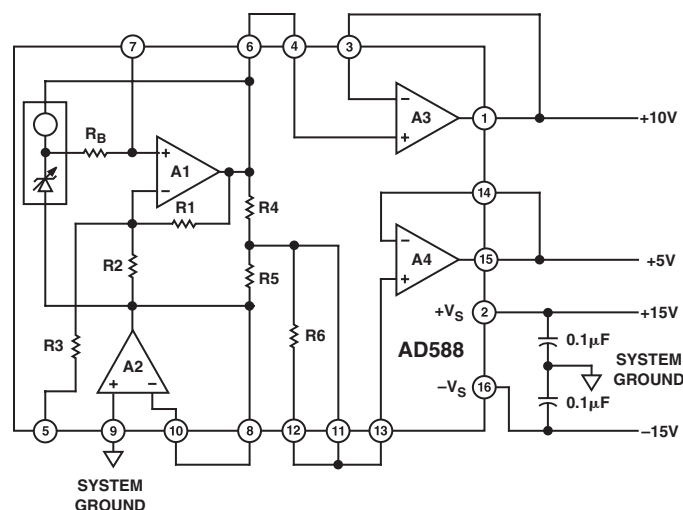
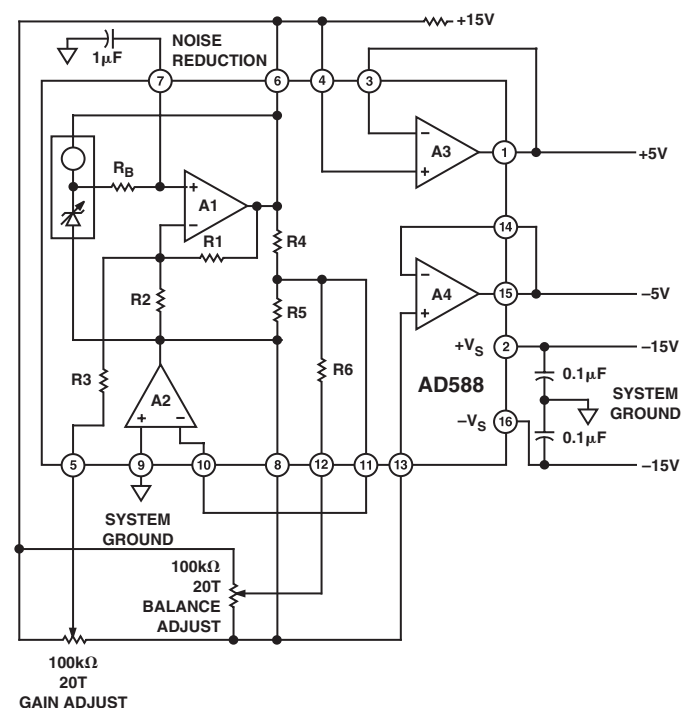
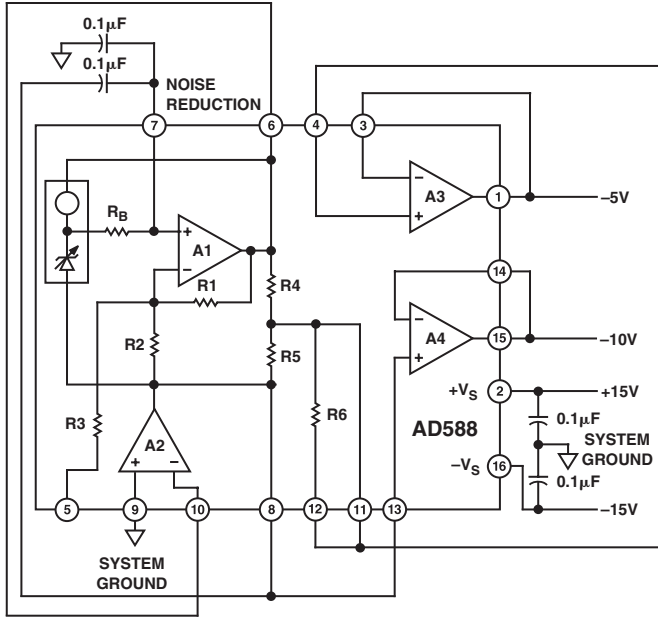
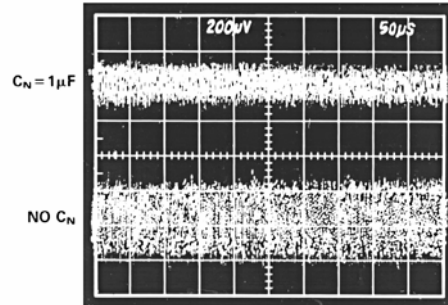

Figure 2a. +10 V Output
Figure 2b. +5 V and -5 V Outputs
Figure 2c. -10 V Output
Figure 4. Effect of 1 μF Noise Reduction Capacitor on Broadband Noise
+10 V	Figure 2a
-10 V	Figure 2c
+5 V, -5 V, ±5 V	Figure 2b
The AD588 can be configured to provide +10 V and -10 V reference outputs as shown in Figures 2a and 2c, respectively. It can also be used to provide +5 V, -5 V, or a ± 5 V tracking reference, as shown in Figure 2b. Table I details the appropriate pin connections for each output range. In each case, Pin 9 is connected to system ground and power is applied to Pins 2 and 16.
The architecture of the AD588 provides ground sense and uncommitted output buffer amplifiers that offer the user a great deal of functional flexibility. The AD588 is specified and tested in the configurations shown in Figure 2a. The user may choose to take advantage of the many other configuration options available with the AD588. However, performance in these configurations is not guaranteed to meet the extremely stringent data sheet specifications.
As indicated in Table I, a +5 V buffered output can be provided using amplifier A4 in the +10 V configuration (Figure 2a). A -5 V buffered output can be provided using amplifier A3 in the -10 V configuration (Figure 2c). Specifications are not guaranteed for the +5 V or -5 V outputs in these configurations. Performance will be similar to that specified for the +10 V or -10 V outputs.
Amplifiers A3 and A4 can be used interchangeably. However, the AD588 is tested (and the specifications are guaranteed) with the amplifiers connected as indicated in Figure 2a and Table I. When either A3 or A4 is unused, its output force and sense pins should be connected and the input tied to ground.
Figure 2b shows GAIN and BALANCE trims in a +5 V and -5 V tracking configuration. A 100 k Ω 20-turn potentiometer is used for each trim. The potentiometer for GAIN trim is connected between Pin 6 (V_{HIGH}) and Pin 8 (V_{LOW}) with the wiper connected to Pin 5 (GAIN ADJ). The potentiometer is adjusted to produce exactly 10 V between Pin 1 and Pin 15, the amplifier outputs. The BALANCE potentiometer, also connected between Pin 6 and Pin 8 with the wiper to Pin 12 (BAL ADJ), is then adjusted to center the span from +5 V to -5 V.
If further noise reduction is desired, an optional capacitor, C_N , may be added between the NOISE REDUCTION pin and ground, as shown in Figure 2b. This will form a low-pass filter with the 4 k Ω R_B on the output of the Zener cell. A 1 μF capacitor will have a 3 dB point at 40 Hz and will reduce the high frequency (to 1 MHz) noise to about 200 μV p-p. Figure 4 shows the 1 MHz noise of a typical AD588 both with and without a 1 μF capacitor.
Note that a second capacitor is needed in order to implement the NOISE REDUCTION feature when using the AD588 in the -10 V mode (Figure 2c.). The NOISE REDUCTION capacitor is limited to 0.1 μF maximum in this mode.